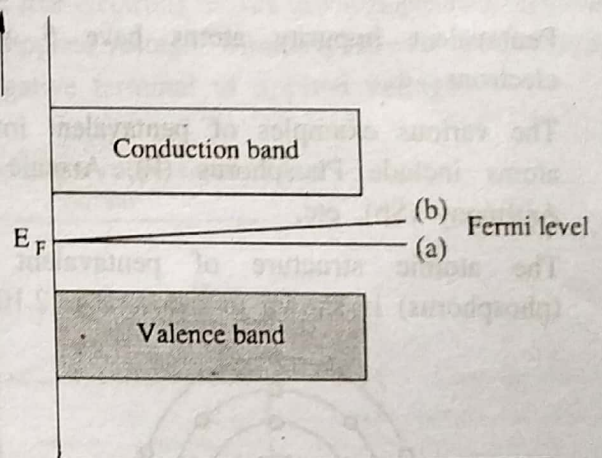

FIG. 2.9 : VARIATION OF FERMI LEVEL
- The variation of Fermi level with temperature for an intrinsic semiconductor is shown in Fig. 2.9.
- At $T = 0$ K, the Fermi level lies exactly in middle of forbidden gap as shown in Fig. 2.9(a).
- If, there is a small variation in E_F in the high temperature region. (See Fig. 2.9(b))